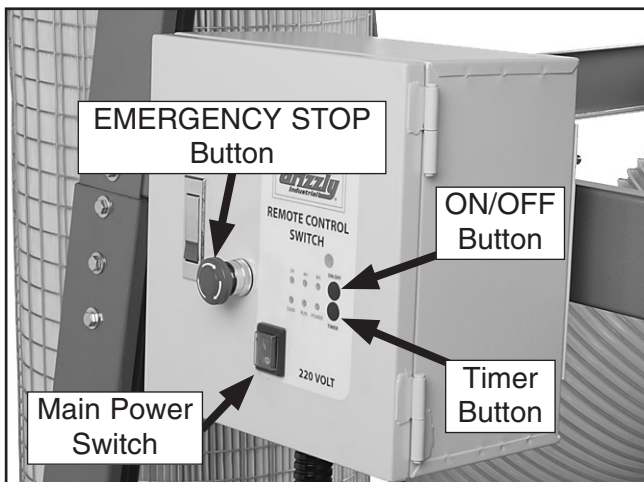

Figure 42. Control box (Model G0638 shown).
4. Flip the main power switch at the lower left hand corner of the control box (see **Figure 42**).